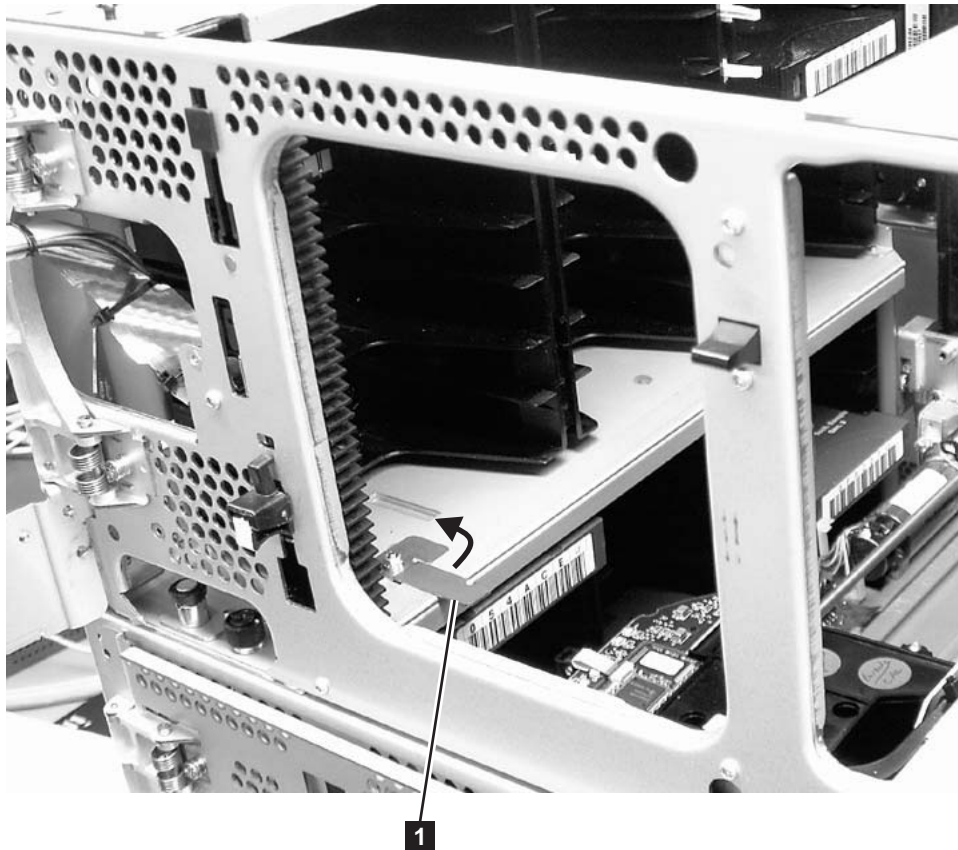

Figure 3-27. Releasing the picker assembly lock mechanism
3. Manually raise the picker assembly while you release the lock mechanism (**1** in Figure 3-27).